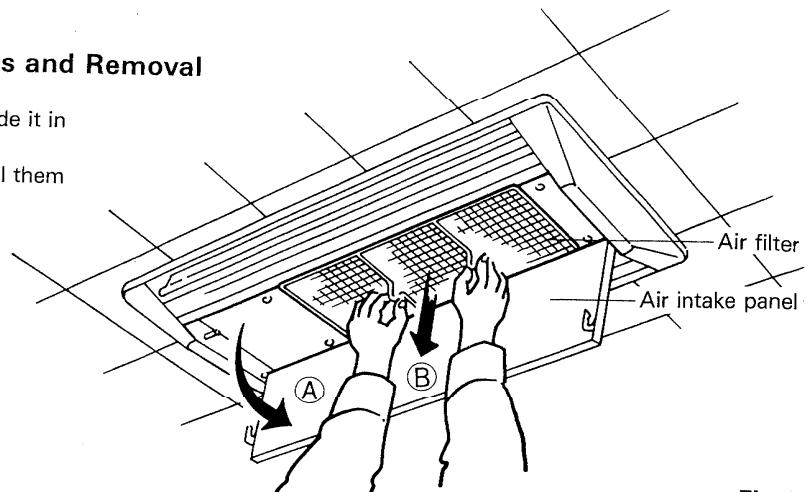

Fig.1
- 1) Lift the air intake panel slightly upward and then slide it in the direction shown by arrow (A).
- 2) To remove the air filter, grasp the filter tabs and pull them downwards (arrow (B)). Fig.1